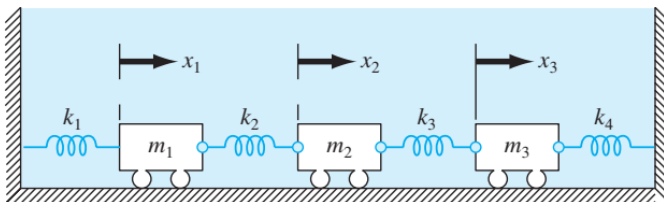

FIGURE P13.4
13.4 Derive the set of differential equations for a three mass–four spring system (Fig. P13.4) that describes their time motion. Write the three differential equations in matrix form